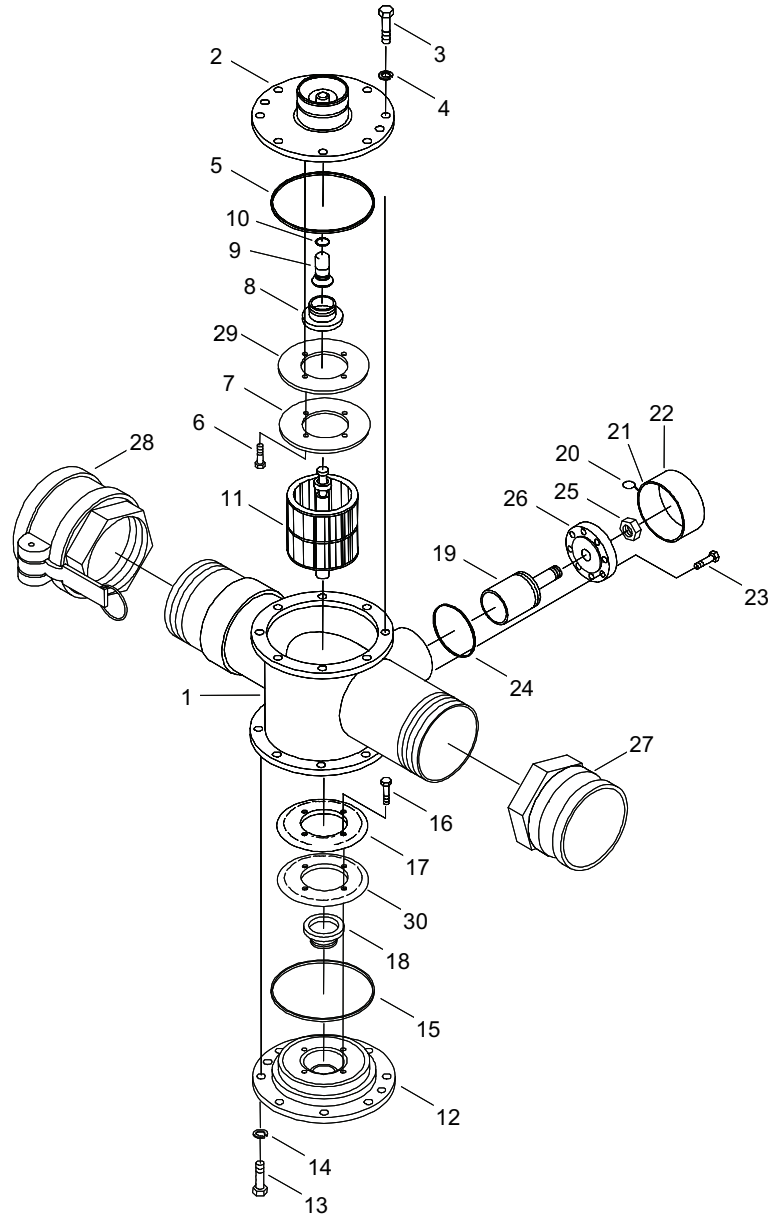

Figure 3. 6 In. In-line Flowmeter Assembly.
1. Position drain pans below flow meter (Figure 3, Item 1).
1. Remove top cover (Figure 3, Item 2) from flowmeter (Figure 3, Item 1).
- a. Remove eight bolts (Figure 3, Item 3) and eight lock washers (Figure 3, Item 4). Discard lock washers (Figure 3, Item 4).
- b. Remove top cover (Figure 3, Item 2).
2. Remove o-ring (Figure 3, Item 5) from top cover (Figure 3, Item 2). Discard o-ring (Figure 3, Item 5).
3. Disassemble top cover (Figure 3, Item 2).
- a. Remove four screws (Figure 3, Item 6) from top cover (Figure 3, Item 2).
- b. Remove throttle plate (Figure 3, Item 7) and spacer plate (Figure 3, Item 29) from top cover (Figure 3, Item 2).
- c. Remove bearing insert (Figure 3, Item 8) from top cover (Figure 3, Item 2).
- d. Remove flowmeter diaphragm (Figure 3, Item 9) from top cover (Figure 3, Item 2).
- e. Remove o-ring (Figure 3, Item 10) from flowmeter diaphragm (Figure 3, Item 9). Discard o-ring (Figure 3, Item 10).
1. Carefully pull outward on the rotor and shaft assembly (Figure 3, Item 11) to remove from flowmeter (Figure 3, Item 1).
2. Remove rotor and shaft assembly (Figure 3, Item 11) from flowmeter (Figure 3, Item 1).
2. Remove rear cover (Figure 3, Item 12) from flowmeter (Figure 3, Item 1). Discard lock washers (Figure 3, Item 14).
- a. Remove four bolts (Figure 3, Item 13) and four lock washers (Figure 3, Item 14) from rear cover (Figure 3, Item 12). Discard lock washers (Figure 3, Item 14).
- b. Remove rear cover (Figure 3, Item 12).
3. Remove o-ring (Figure 3, Item 15) from rear cover (Figure 3, Item 12). Discard o-ring (Figure 3, Item 15).
4. Disassemble rear cover (Figure 3, Item 12).
- a. Remove four screws (Figure 3, Item 16) from rear cover (Figure 3, Item 12).
- b. Remove throttle plate (Figure 3, Item 17) and spacer plate (Figure 3, Item 30) from rear cover (Figure 3, Item 12).
- c. Remove bearing insert (Figure 3, Item 18) from rear cover (Figure 3, Item 12).
1. Remove calibration plug (Figure 3, Item 19) from flowmeter (Figure 3, Item 1).
- a. Remove lead seal (Figure 3, Item 20) and wire (Figure 3, Item 21) from calibration plug cover (Figure 3, Item 22). Discard lead seal (Figure 3, Item 20) and wire (Figure 3, Item 21).
- b. Remove calibration plug cover (Figure 3, Item 22) from calibration plug (Figure 3, Item 19).
- c. Remove eight bolts (Figure 3, Item 23) from calibration plug (Figure 3, Item 19).
- d. Remove calibration plug (Figure 3, Item 19) by pulling straight up on calibration plug cover.
2. Remove o-ring (Figure 3, Item 24) from calibration plug (Figure 3, Item 19). Discard o-ring (Figure 3, Item 24).
3. Remove nut (Figure 3, Item 25) and base plate (Figure 3, Item 26) from calibration plug (Figure 3, Item 19).
1. Using pipe wrench, remove male cam and groove coupling (Figure 3, Item 27) from flowmeter (Figure 3, Item 1).
2. Using pipe wrench, remove female cam and groove coupling (Figure 3, Item 28) from flowmeter (Figure 3, Item 1).